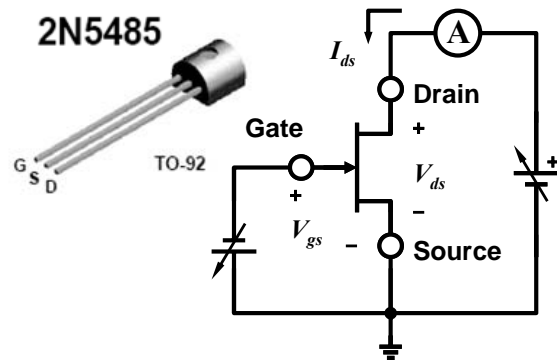

Figure 3-9 – JFET device and circuit for I-V characterization.
- Find the 2N5485 device in your kit, and construct the simple biasing circuit shown in Figure 3-9. You will use separate power supplies to vary the drain and gate voltages (make sure they are turned down to zero volts before you start, to prevent any damage to the device). In a JFET the gate voltage will be *negative* with respect to the source ( $V_{gs} < 0$ ), so be sure to hook up the gate-source supply correctly! Use your bench DMM to monitor the drain-source current; your hand-held DMM will be helpful later for monitoring some of the voltages.